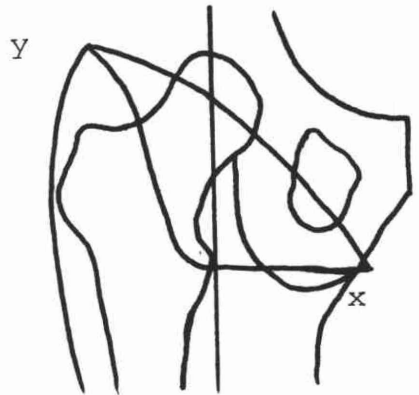

Figure 9. Anterior view showing relationship of medial brim (point X) to ischium and of lateral wall (point Y) to greater trochanter.
6. Top 1" of medial wall will flare outward at 45° (Figure 9, point Y).
7. Lateral wall is higher than usual. Do go above the trochanter (Figure 9, point Y).